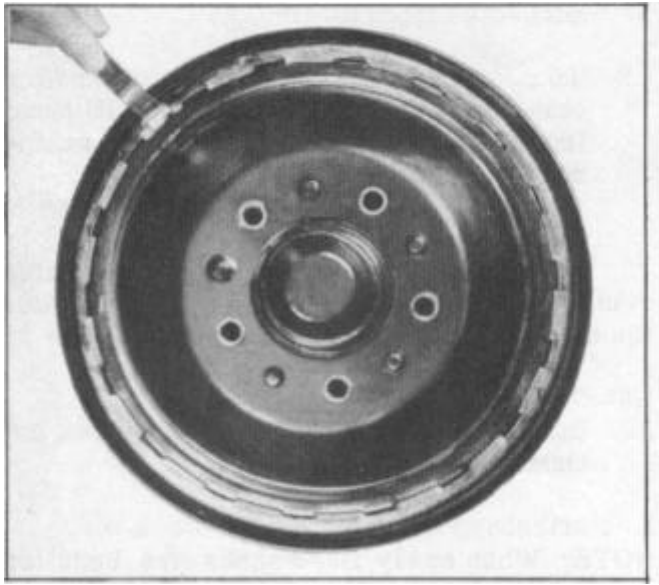

FIGURE 13
14. After installing hubs and drums, insert a pry between the linings of the secondary shoe and the drum (through drum feeler gauge hole) and move the shoe assembly until the primary shoe is against the opposite side of the drum, Figure 13. The primary shoe can be pried against the drum by inserting the .015" feeler gauge between the adjusting screw end of secondary